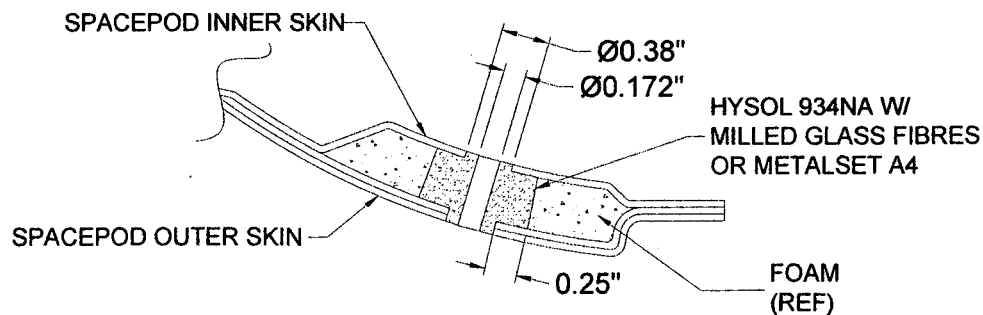

FIGURE 22(a). COMPOSITE MODIFICATION
- 3.5.5 Install the D3538-1 hinge brackets on the pod as shown in Figure 22:
- Remove the door and drill $\varnothing 0.375"$ holes where marked. Remove the foam inner layer 0.250" around the hole between the inner and outer skins as shown in Figure 22(a).
- Install the D3538-1 hinge brackets and *Spacepod™* door as shown in Figure 22(b).